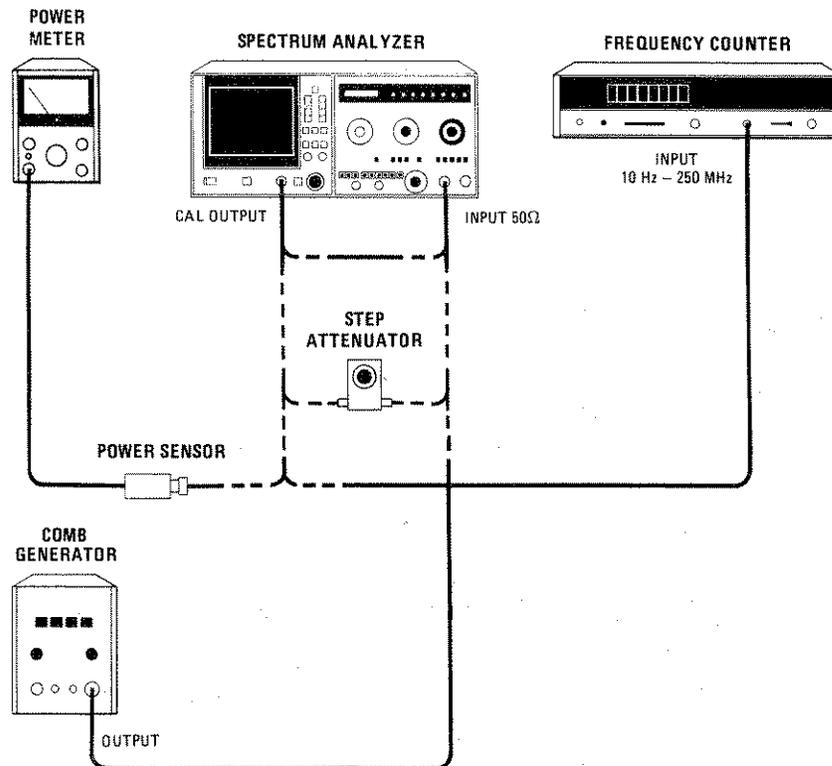

Figure 2-4. Operation Verification Test Setup
1. Connect frequency counter to spectrum analyzer CAL OUTPUT as shown in Figure 2-4. Set all normal (green) settings, and other controls as follows: